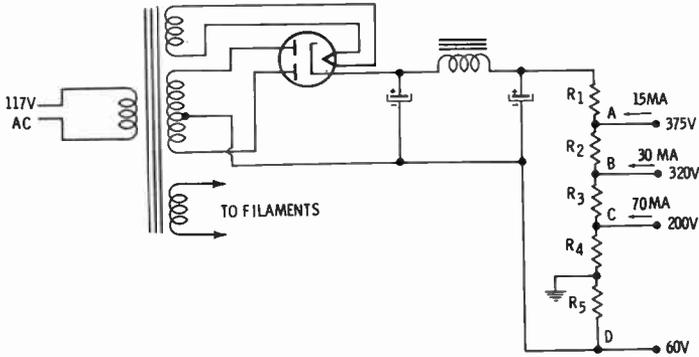

Fig. 11. A voltage divider network.
The function of a voltage divider is to provide several different voltage values from a single output. The principal method in each system is to lower the voltage by means of one or more resistors inserted in the circuit. When one resistor is utilized, it is generally tapped at suitable intervals, as shown in Fig. 11. The voltage divider shown here also serves as a bleeder resistor. The bleeder has two major functions: (1) It bleeds off the charge on the filter ca-
**Example:** Assume that the power supply shown in Fig. 11 has 450 volts across its output terminals and that the required voltages and currents are as follows: